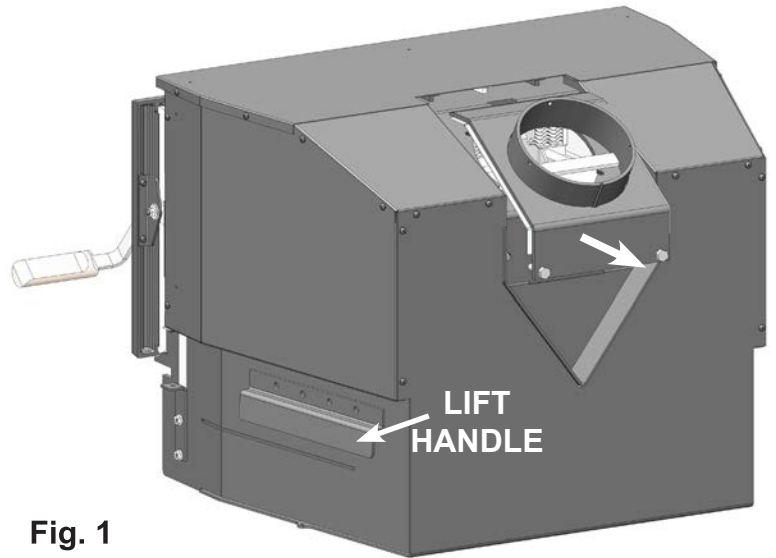

Fig. 1
2. Remove the two nuts from inside the firebox that hold flue collar assembly in place, use a 9/16" wrench (Fig. 1). Ensure gasket is still fully intact and adhered to flue collar base. Set flue collar assembly aside until "flue collar preparation" later in installation.